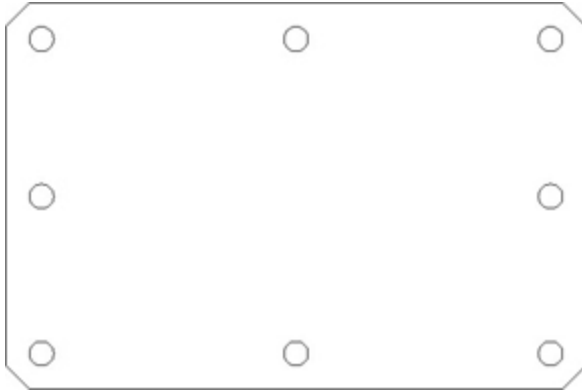

Figure 8-36
- 7** Select the **Multiple** option and chamfer the four corners of the part. Your drawing should look like Figure 8-36.